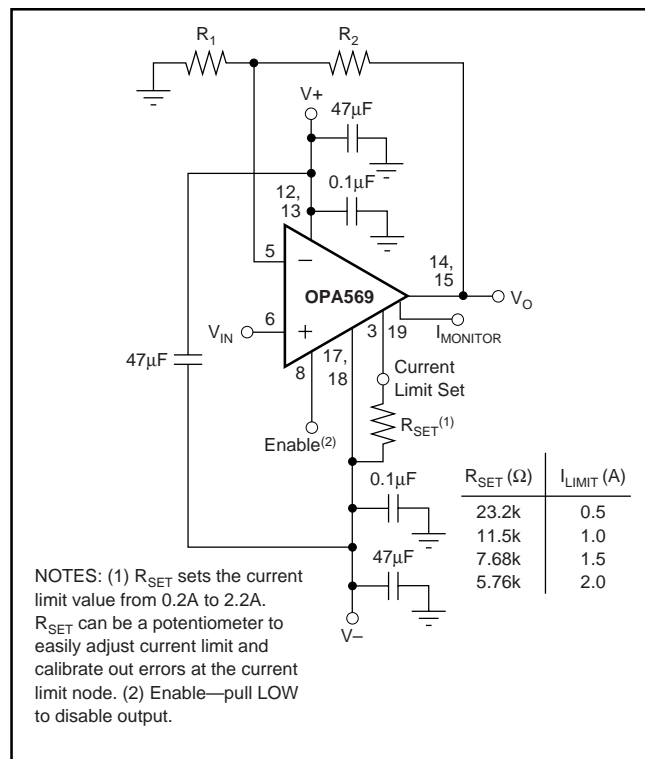

FIGURE 1. Basic Connections.
NOTES: (1) See typical characteristic "Maximum Output Voltage vs Frequency." (2) See the typical characteristic "Total Harmonic Distortion + Noise vs Frequency." (3) Swing to the rail is measured in final test. Under those conditions, the  $A_{OL}$  is derived from characterization. (4) See Safe Operating Area (SOA) plots. (5) See typical characteristic, "Overshoot vs Load Capacitance." (6) External current limit setting resistor is required. See Figure 1. (7)  $I_{LIMIT}$  is the value of the desired current limit and is equal to  $9800 (I_{SET})$ , where  $I_{SET}$  is the current through the Current Limit Set pin (pin 3). Errors from this parameter can be calibrated out—see Applications Information section. (8)  $V_{SET}$  is a voltage reference that equals the difference between the voltage of the Current Limit Set pin and  $V-$ , and is referenced to the negative rail. Errors from this parameter can be calibrated out—see Applications Information section. (9) % Tolerance =  $[(I_{OUT}/475) - I_{MONITOR}] \cdot 100/I_{MONITOR}$ .
Figure 1 shows the OPA569 connected as a basic non-inverting amplifier; however, the OPA569 can be used in virtually any op amp configuration. A current limit setting resistor ( $R_{SET}$ , in Figure 1) is essential to the OPA569's operation, and cannot be omitted.